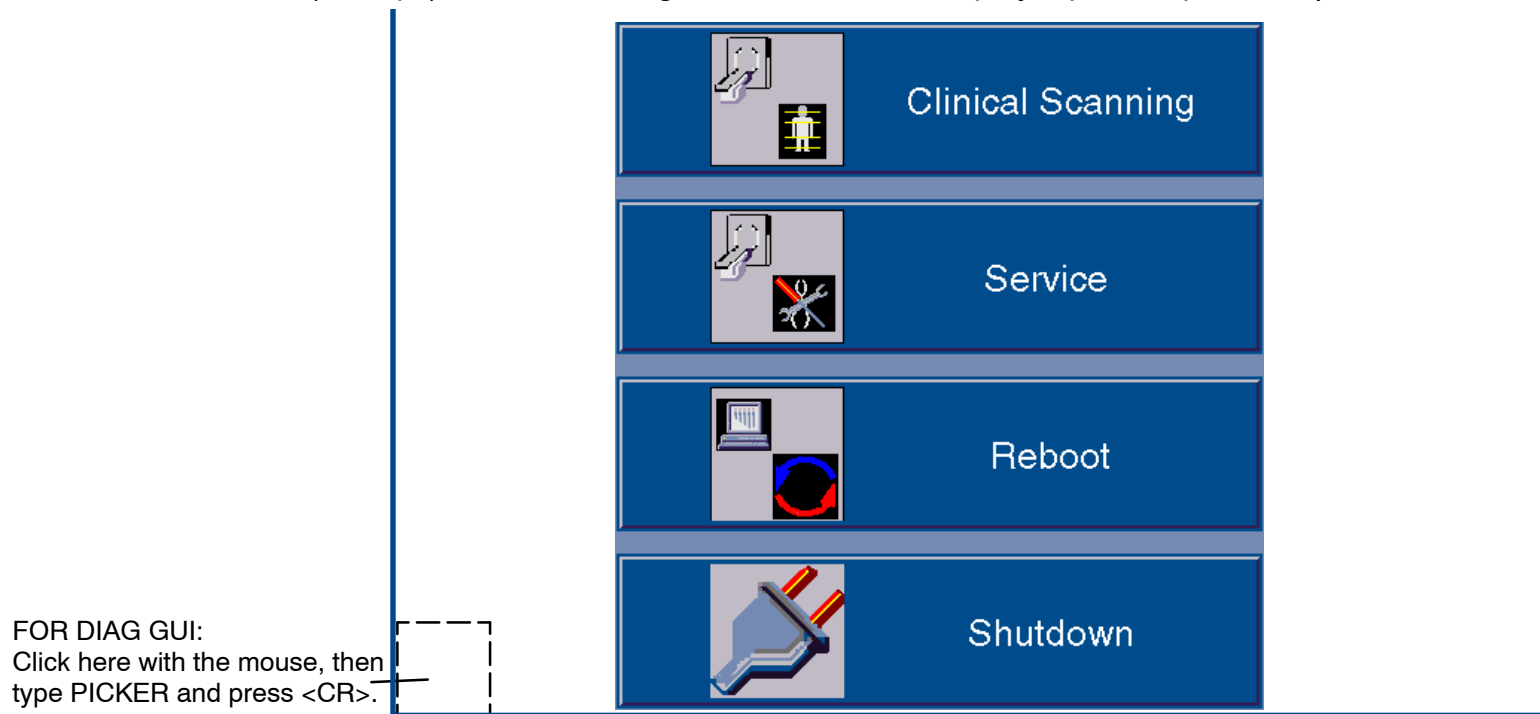
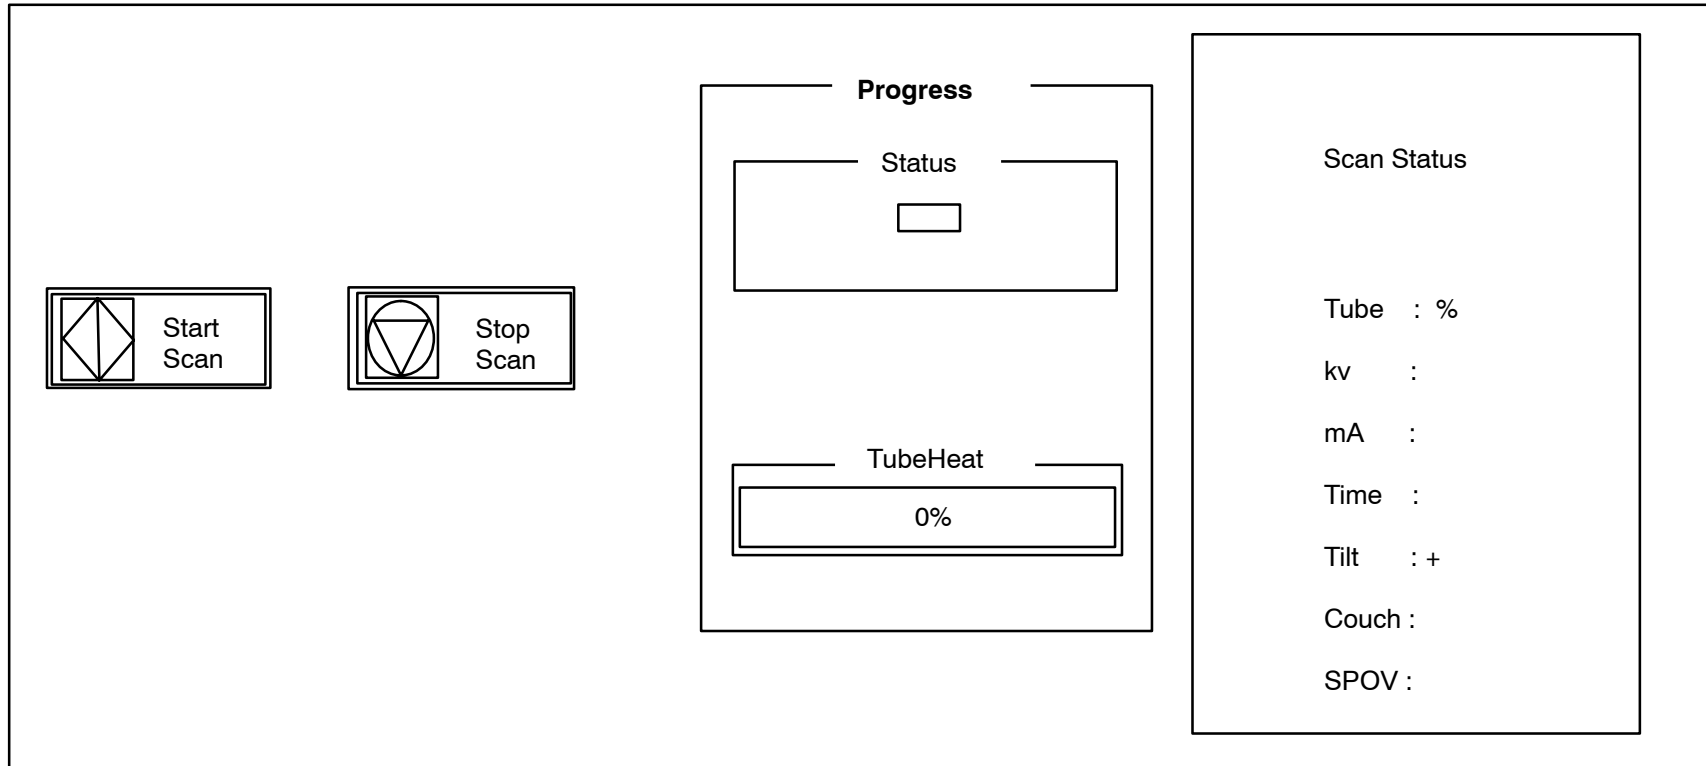

FIGURE 13 4 BUTTON SCREEN
FIGURE 14 TUBE WARM-UP STATUS WINDOW
1. Make sure the Gantry keyswitch is in the normal position. Turn the Display Tower keyswitch to the **ON** position. After the system boots, you will be prompted with the startup application display (or “4 Button Screen.”) You have **4 boot options**. Refer to Figure 13.:
3. To perform a tube warm-up, click on the Tube Warm Up button with the mouse pointer. Refer to Figure 13. This will initiate the warm-up sequence and **X-RAYS WILL BE EMITTED**. The tube warm-up status is displayed in the Tube Warmup Window. Refer to Figure 14.
1. From the 4 Button Screen (Figure 13) click on SHUTDOWN with the mouse pointer.